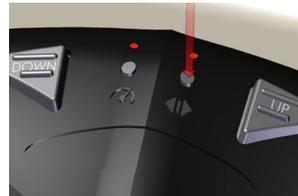

Figure 2
1. With dual Power-Pole shallow water anchors installed, the foot switch can also be used to toggle between independent or simultaneous control of the anchors. Depressing and releasing the "directional" button on the foot switch will toggle through the three settings (port side only, starboard side only, or simultaneous control). (See **Figure 2, 3, 4 and 5**)